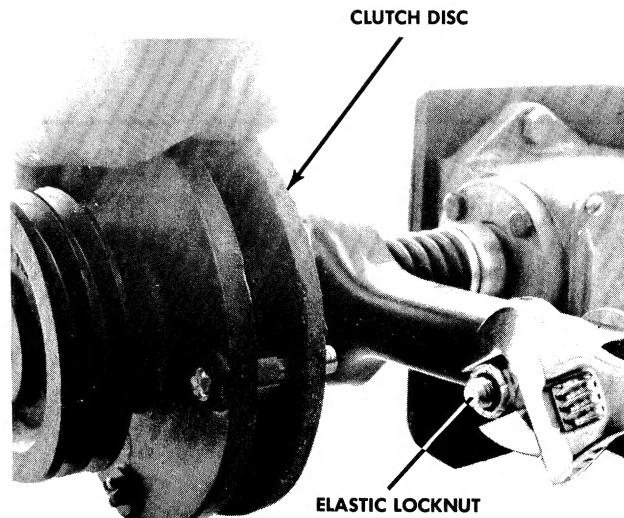
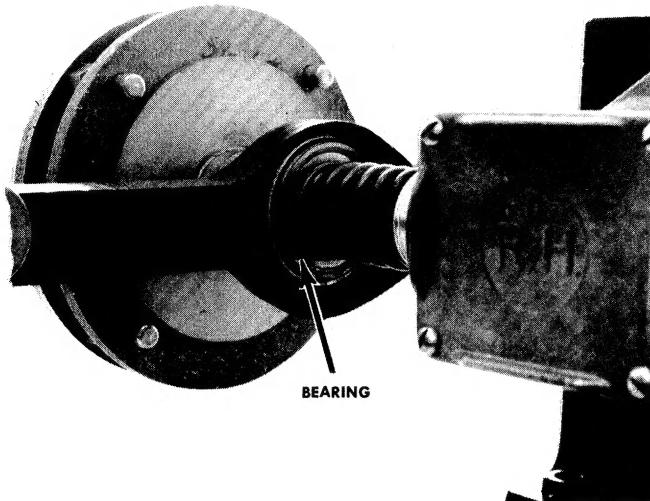

FIGURE 11. CLUTCH ADJUSTMENT
FIGURE 12. THROW OUT BEARING
Turn the key to the right to engage the starting motor on the engine. To shut off the engine turn the key to the left to the OFF position. See Figure 11. THE IGNITION SWITCH MUST BE ON TO OPERATE THE HEADLIGHTS.
Step 2. Rotate the clutch disc by hand and tighten the elastic locknut (Figure 11) until the bearing stops rotating (Figure 12).